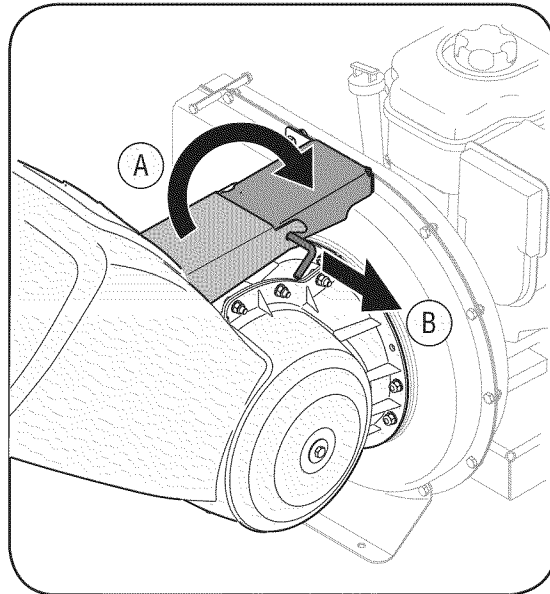

Figure 3-2
- Slide the release rod out slightly to hook the hopper bracket onto the rod. See Figure 3-2.